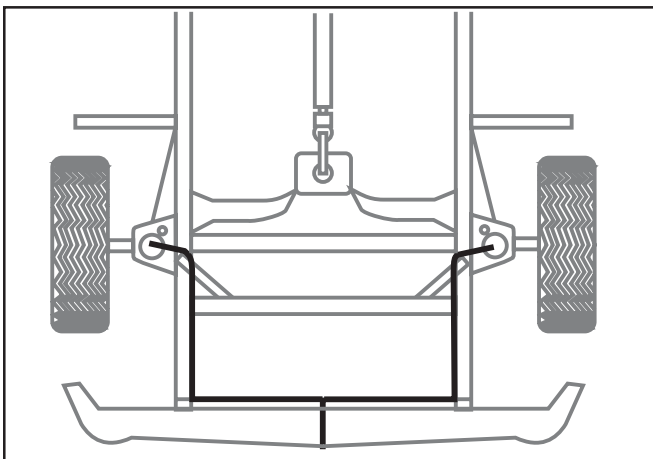
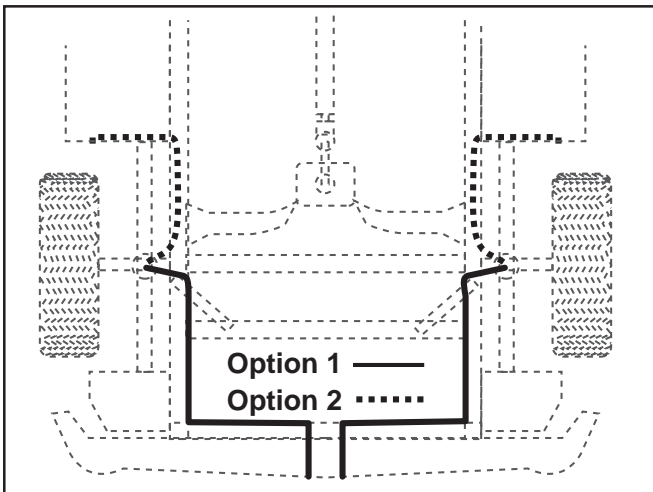

Figure 2
Figure 3
Note: Select either Tee Air Line (Figure 2) or Dual Air Line (Figure 3) option depending on the use of the vehicle. Tee Air Line installation is recommended unless weight in vehicle varies from one side to the other, in which case Dual Air Line installation is recommended to level the vehicle from side to side.
10. Push the remaining air line over the last fitting on tee and route along frame to desired inflation valve location (Figure 2). Attach with plastic straps or wire.